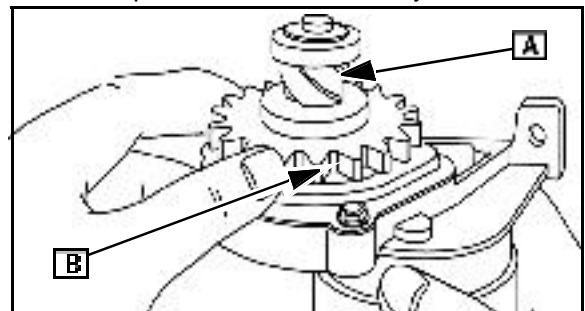

Fig. 35
Inspect helix (A) and pinion gear (B) Fig. 35) for freedom of operation.